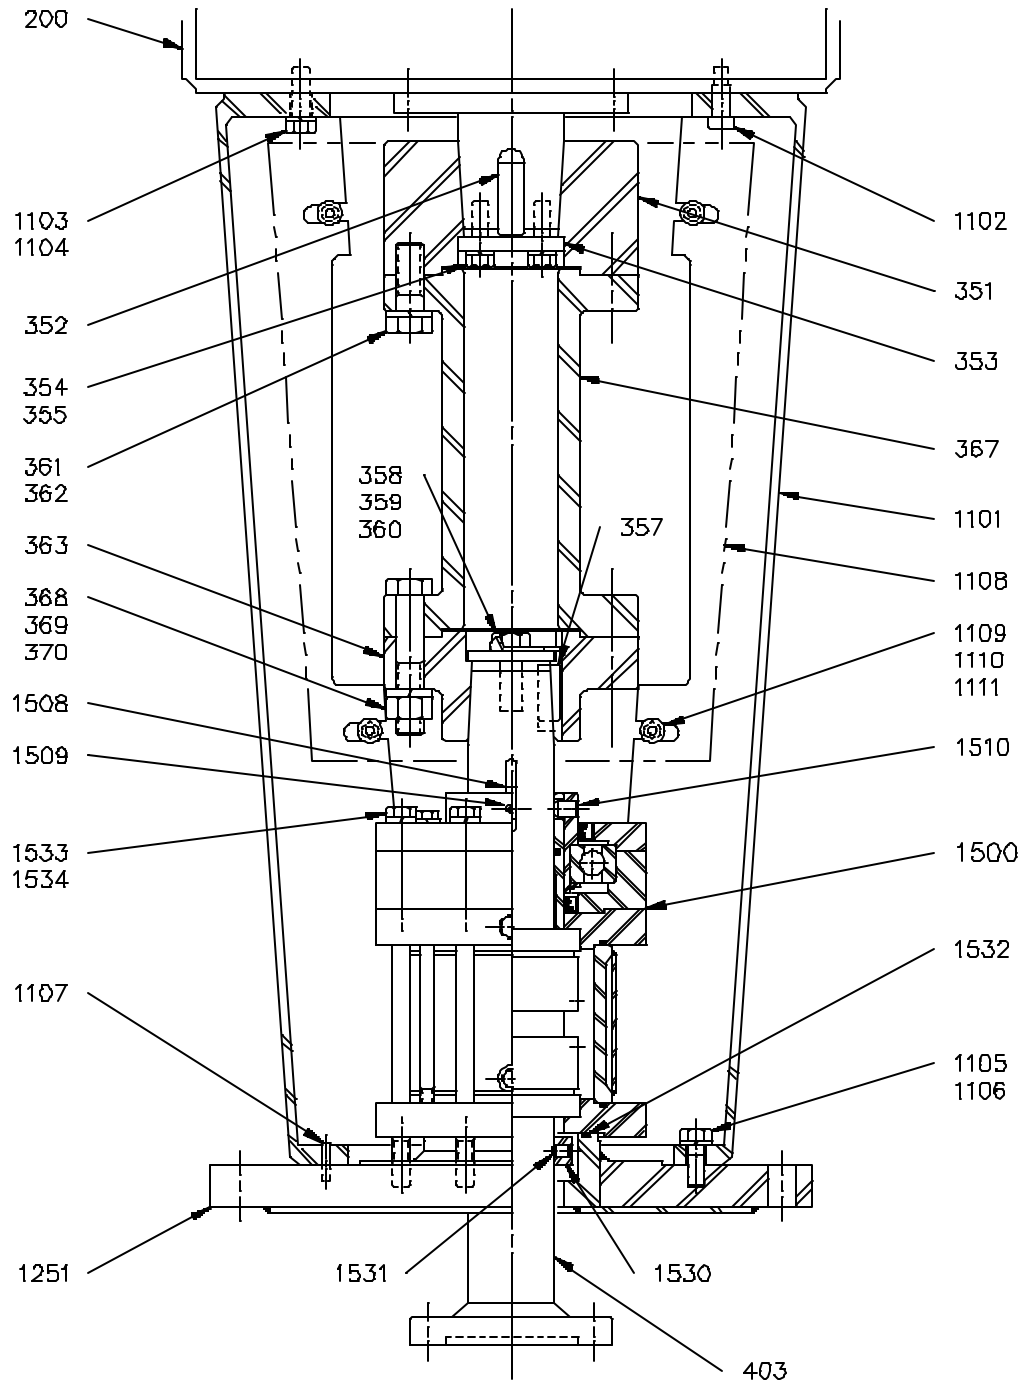

Figure 5: Model HTN
5. HTN, HTNS Units (*Figures 5 and 6, pages 15 and 16*)